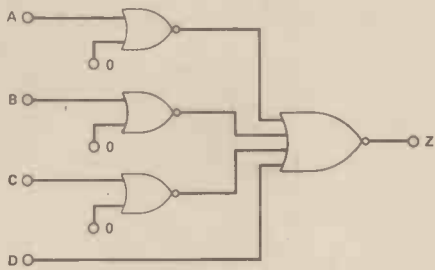

Figure 15. The circuit for the control system described in the text.
We have altered circuit statement (1) and produced a statement (4) which involves only NOR and NOT gates. And, because NOT gates can be built from NOR gates, we can now build the circuit using only NOR gates. The circuit is, of course, one four-input NOR gate with NOT gates at inputs A, B, C and is shown in Figure 15. This example has been a particularly simple one and the circuit
We know from last month that digital logic gates can be constructed using transistors. But no-one in their right mind would begin to design and construct a complex digital logic control — and the example in Figure 15 is by no means a complex one by industrial standards — using transistors. For this reason ICs have been developed and manufactured which contain transistors and all other components necessary to form logic gates. This means that a designer does not need to think in terms of discrete (ie, individual) components — all he has to do is design the circuits using gates on paper and then build it using the gates held within the ICs.